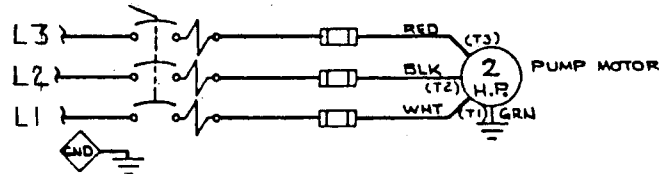

Figure 6. Elementary Wiring Diagram (Without Liquid Level Controls)
- a. Measure the incoming voltage across lines (1 & 2, 2 & 3, and 1 & 3) while the pump is **operating at full capacity**. See Figure 6 on page B-14 or Figure 8 on page B-15.
Connect the pump power cable to the control box as shown in Figure 6 on page B-14 or Figure 8 on page B-15. Use conduit or cable clamps to secure the power and